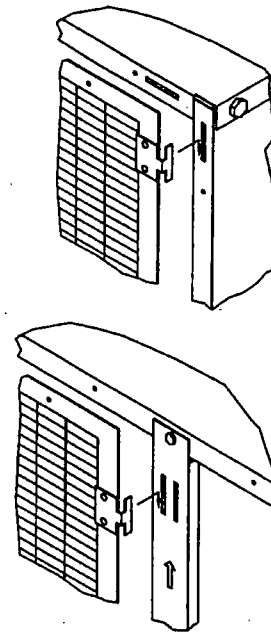

Figure 3 - Assembly of Hinges
1. Bolt (4) side panels together with 1/4 dia. x 1/2" long bolts and lock nuts (supplied).
4. Fasten intake guard to face of housing with hinges and #10 x 1/2" sheet metal screws (supplied) Refer to Figure 3.